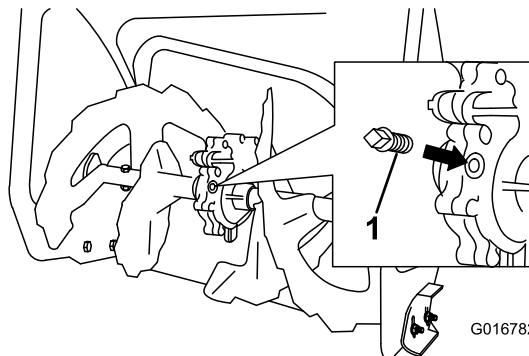

Figure 30
2. Clean the area around the pipe plug (Figure 30).